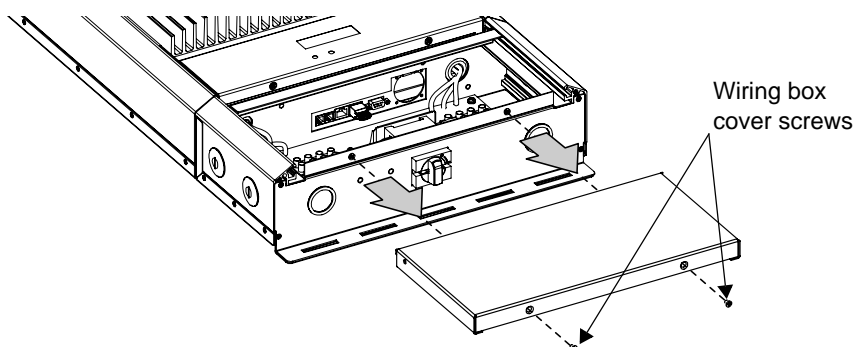

Figure 3-3 Removing the Wiring Box Cover
- Using a Phillips screwdriver, remove the two screws on the bottom side of the wiring box and lift the cover off the wiring box (see Figure 3-3).